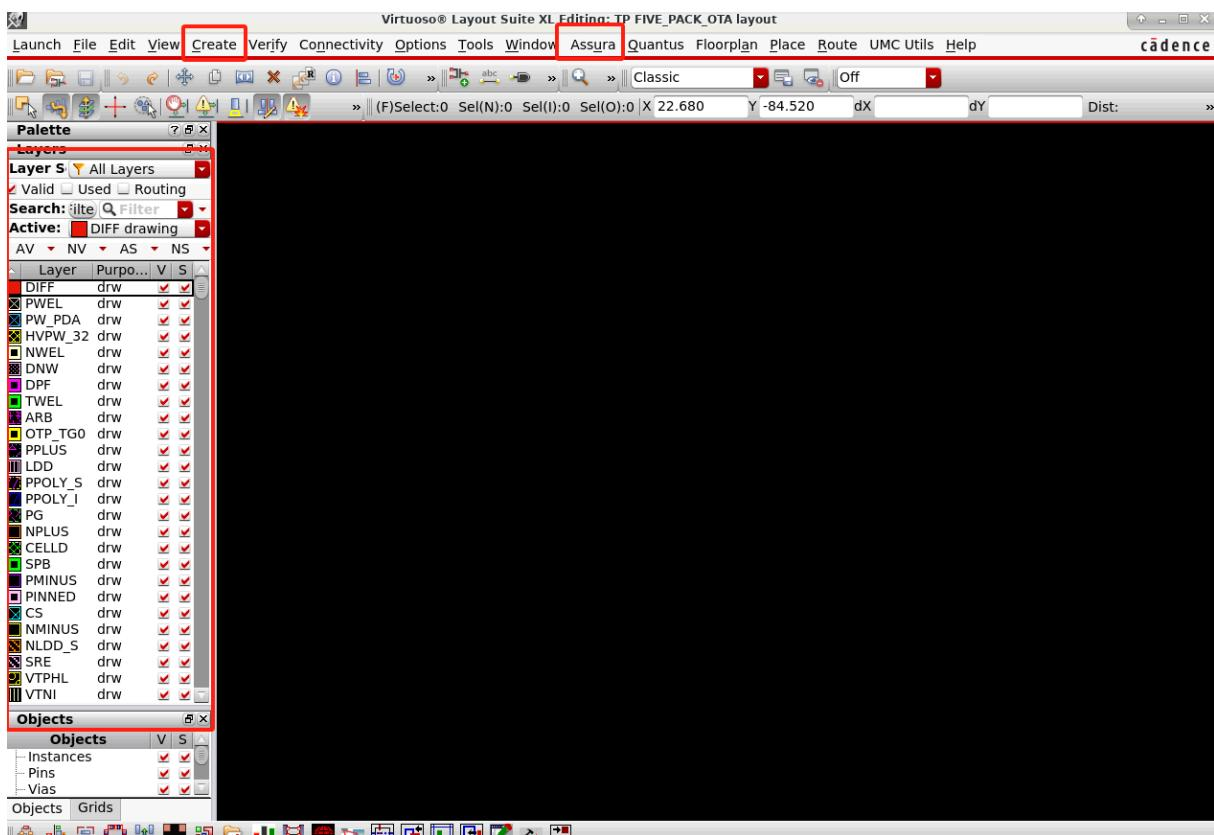

Fig. 2 Layout editing window in Cadence Virtuoso
To start layout drawing, in the schematic view, **click Launch (in the top left corner) → Layout XL → “OK” in the Startup Option → “OK” in the New File**. This will bring the layout editing window as shown in Fig. 2. **Click “Create” to add instance, wire, via, path, label, and so on.** Some useful shortcuts are listed in Table 1 for your reference. There are multiple layers listed on the right side of left side of the window. Simply tick the corresponding layer to control its visibility (V) and stretchability (S). After layout, we will use the Assura for DRC and LVS. **Ask the nearby TA when you are confused with the software 😊.**